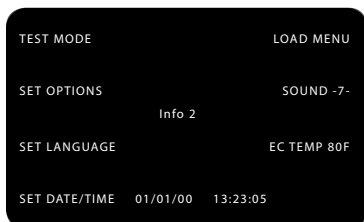
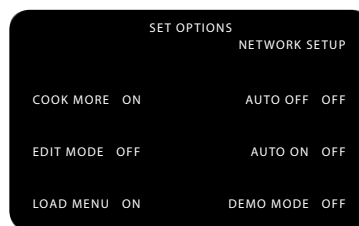

Figure 6: Info 2 Screen
Figure 7: Set Options Screen
From the Info 2 screen (Figure 6), select “Set Options” to access the Options screen (Figure 7). When prompted, enter the password 9 4 2 8 and press the Enter key.
Figure 7. The Cook More option controls whether or not the three “cook more” keys function. This option must be enabled in order to cook an item beyond its original cook time (see page 10).
Figure 7, page 13. The Edit Mode allows the operator to change cook settings for each item, including item and group names. See pages 17-18 for more details. Turning “Edit Mode” off will prevent the operator from changing menu settings.
Figure 7, page 13. The Load Menu screen allows the operator to upload and/or download new menu settings from a USB drive or smart card. Turning “Load Menu” off will prevent access to the Load Menu screen when the operator is viewing the Info 2 screen. See page 15 for more details.
From the Info 2 screen (Figure 6, page 13), select “Set Date/ Time” to set:
1. From the Info 2 screen (Figure 6, page 13), select “Load Menu.”